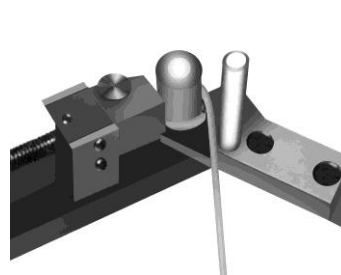

Figure 3
7. Re-clamp the material. Continue the above process until the material makes one full revolution. A slight over bending on the final step is required due to spring back, as shown in figure 3.